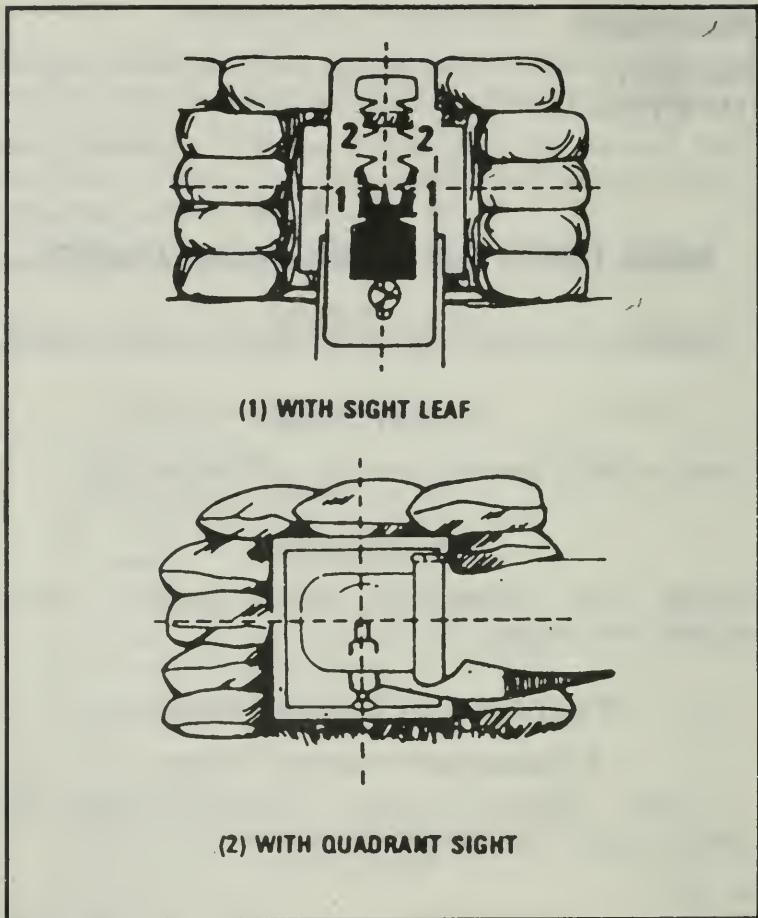

Figure 151. Correct sight alignment and sight picture.
1. Sight. Sighting consists of sight alignment and getting a sight picture (Figure 151).